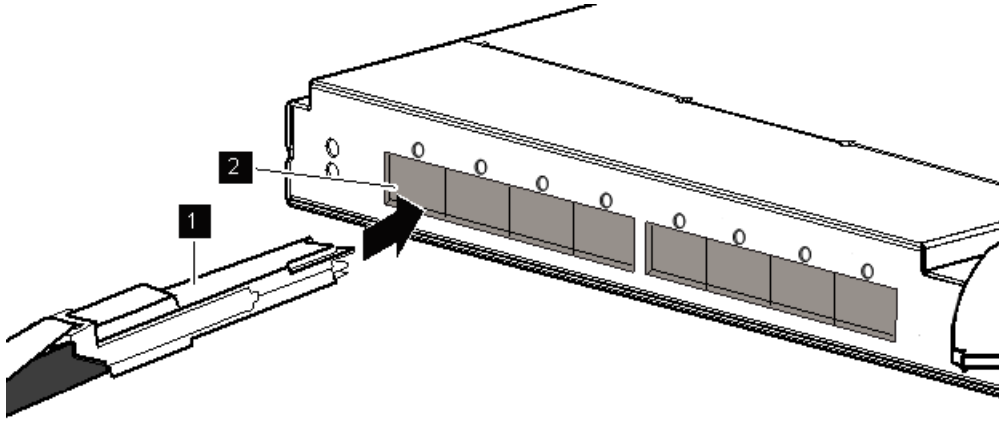

Figure 8 Install InfiniBand Cable in an HP BLc Intel® 4X QDR InfiniBand Managed Switch Port
1. Align the InfiniBand cable QSFP connector (see callout 1 in Figure 8) with the HP BLc Intel® 4X QDR InfiniBand Managed Switch port (see callout 2 in Figure 8).